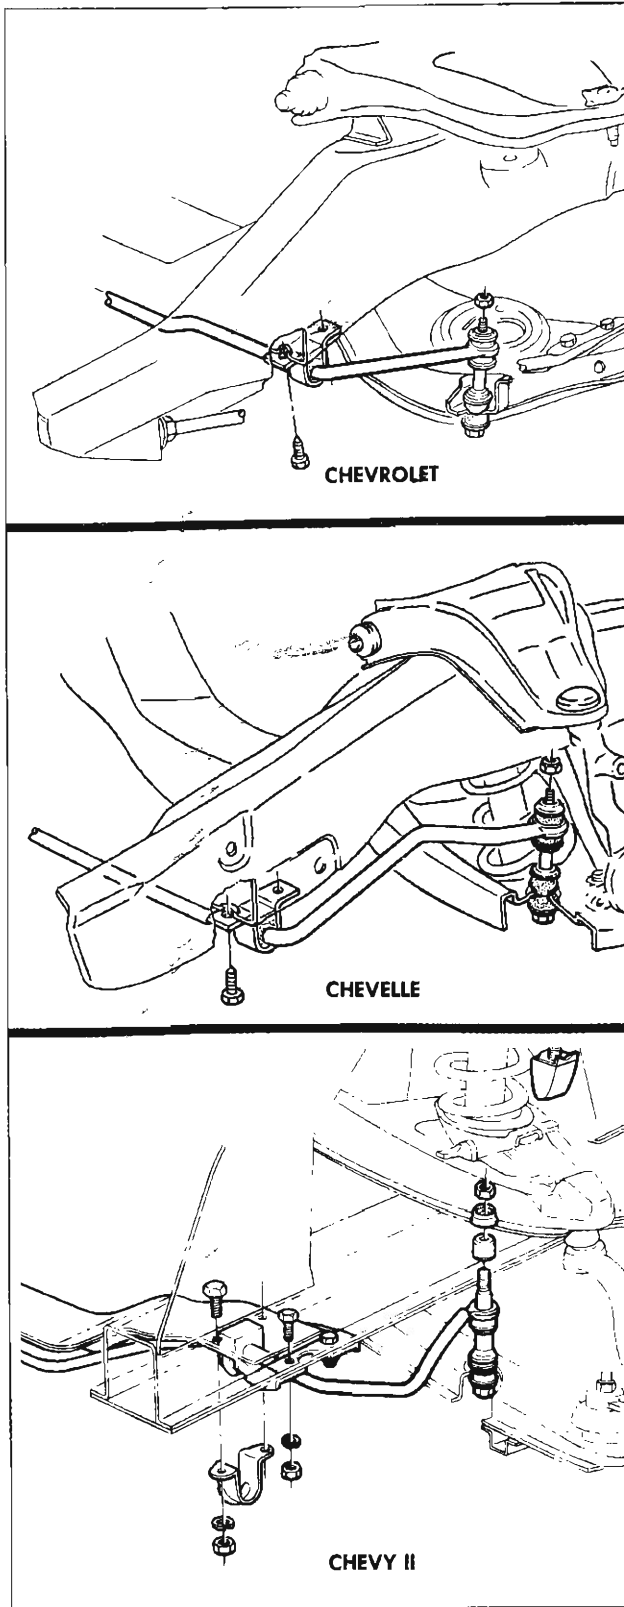

Fig. 16—Stabilizer—Exploded View
## STABILIZER BAR (FIG. 16)
2. Disconnect stabilizer bar from lower control arm (fig. 16). Remove stabilizer bar brackets from the frame (Chevrolet and Chevelle) or from the front crossmember (Chevy II) and remove stabilizer.